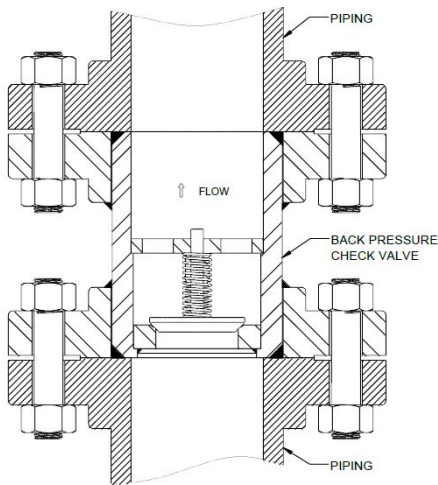

Figure 1: Install Diagram
7. Ensure gaskets are properly positioned on each end of valve before proceeding (see Figure 1).